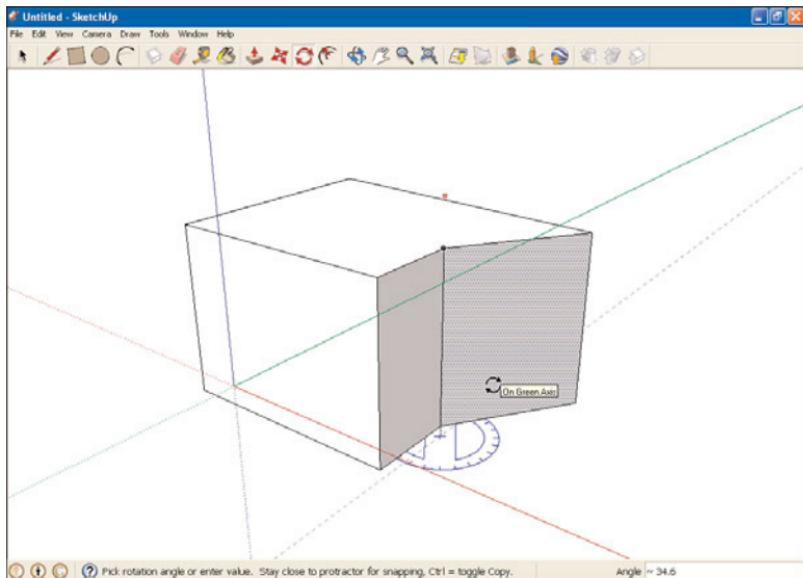

FIGURE 8.5 A partially rotated object.
13. Click the mouse to lock the object in its rotated position. You can see the new position of the right half of the bisected cube face in our example in Figure 8.5.
You can get the same effect as you see in Figure 8.5 with the Move tool if you drag the right-most edge of the cube forward.